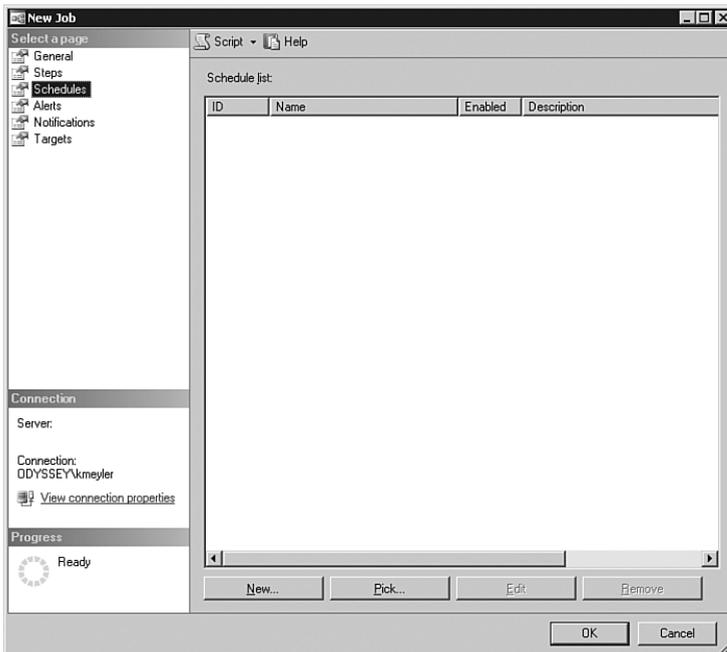

FIGURE 12.10 The New Job schedules page.
9. Select the Schedules page (see Figure 12.10) and click New to add a new schedule.